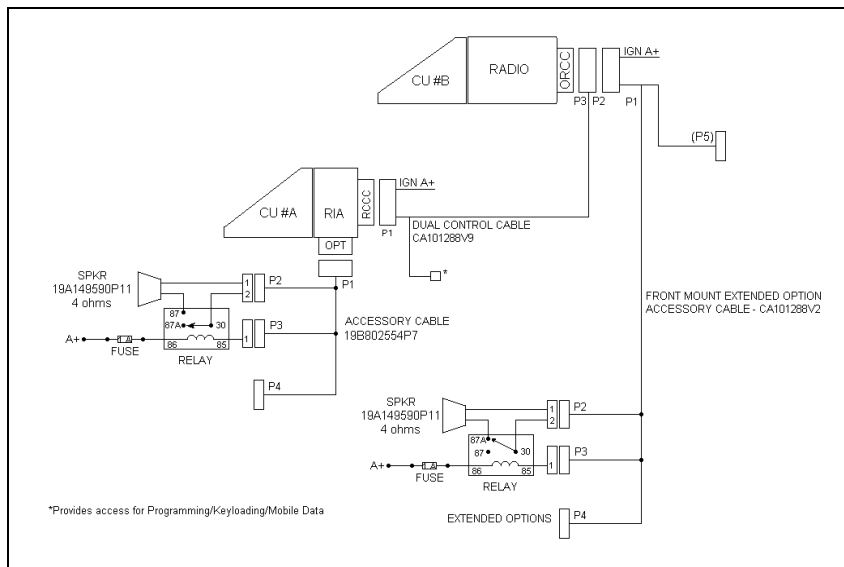

Figure 24 – M7100^{IP} Dual Control Unit Front Mount/Remote Mount Installation Configuration
1. Referring to Figure 24, run the Dual Control Cable (19B802554P9) between locations for the Radio Unit and Auxiliary Control Unit. Be sure to locate the P2/P3 connector assembly at the Radio Unit.
- B. Hardwire each speaker directly (without relays) as shown in Figure 24.
9. Radio Unit Speaker: Connect the lead nearest the speaker to Pin 87A of the relay. Connect the lead nearest the connector to Pin 30 of the relay. Connect the connector to the Accessory Cable P2 (Refer to Figure 24).
10. Auxiliary Control Unit Speaker: Connect the lead nearest the speaker to Pin 87 of the relay. Connect the lead nearest the connector to Pin 30 of the relay. Connect the connector to the Accessory Cable P2 (Refer to Figure 24).
11. For each relay: Connect a #18 AWG black wire between the relay, Pin 85 and Accessory Cable P3-1 (labeled **"OUT2"** on the schematic diagrams in the service manual). Use a 1/4" tab receptacle on the relay side and mating Molex connector and pins on the accessory cable side. Connect the mating Molex connector to the Accessory Cable P3 when finished (Refer to Figure 24).
12. For each relay: Connect a #18 AWG red wire to the relay, Pin 86. Cut to length, and connect to the 1A fuse holder (supplied). Use crimp on connectors supplied. Connect the other side of the 1 amp fuse holder to A+ battery source or vehicle A+ fuse block. Use #18 AWG red wire and ring lug supplied, if needed (see Figure 24).